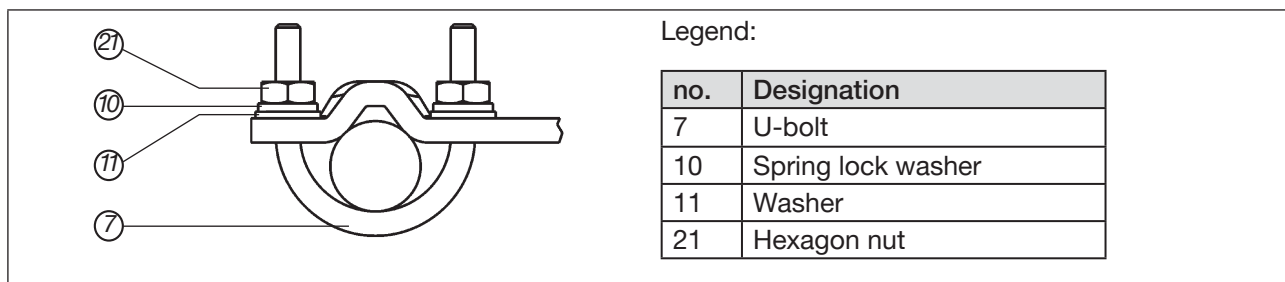

Figure 21: Attaching the positioner with the mounting bracket; for actuators with a columnar yoke
→ Attach the mounting bracket to the columnar yoke using the U-bolt (7), the washers (11), the spring lock washers (10) and the hexagon nuts (21) (see “Figure 21”).